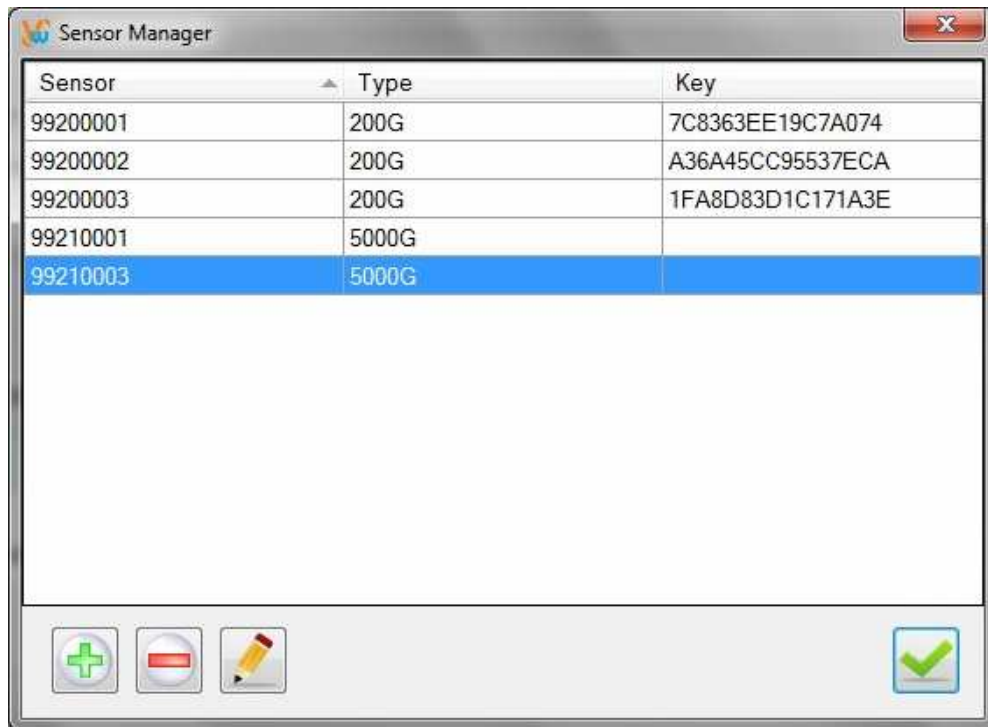

Figure 5: Managing the sensors
- Click on the  button. The sensor management window opens up (Figure 5). Here you will find a list of sensors that have been previously registered. If you are configuring your first sensor, this list will be empty.